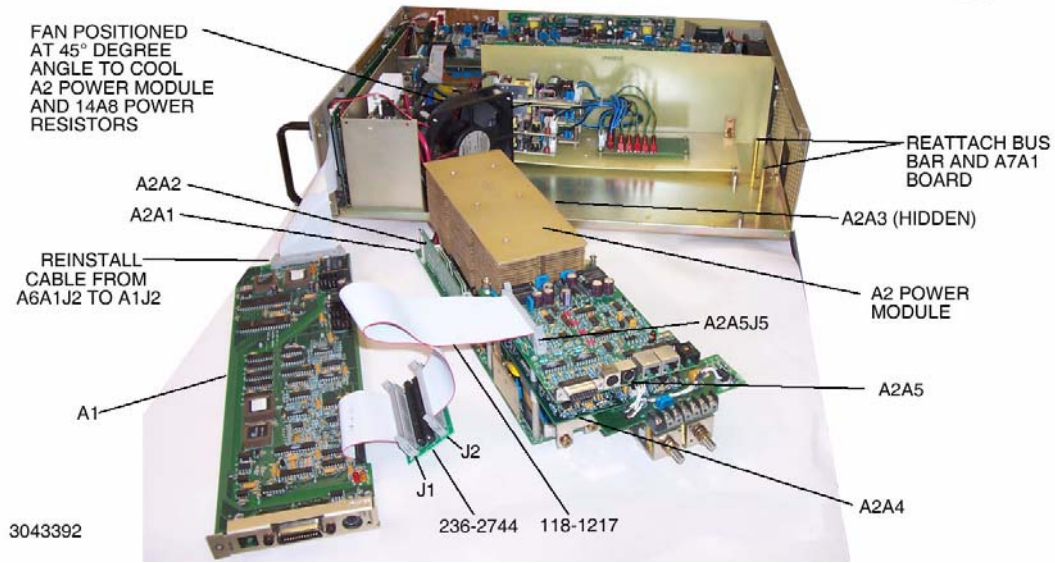

FIGURE 3. ACCESS TO A2A5, COMPONENT LOCATIONS
- a. Refer to Figure 3 and connect the cable from A1J1 to J1 header of PCB connector assembly P/N 236-2744 (from Kit).